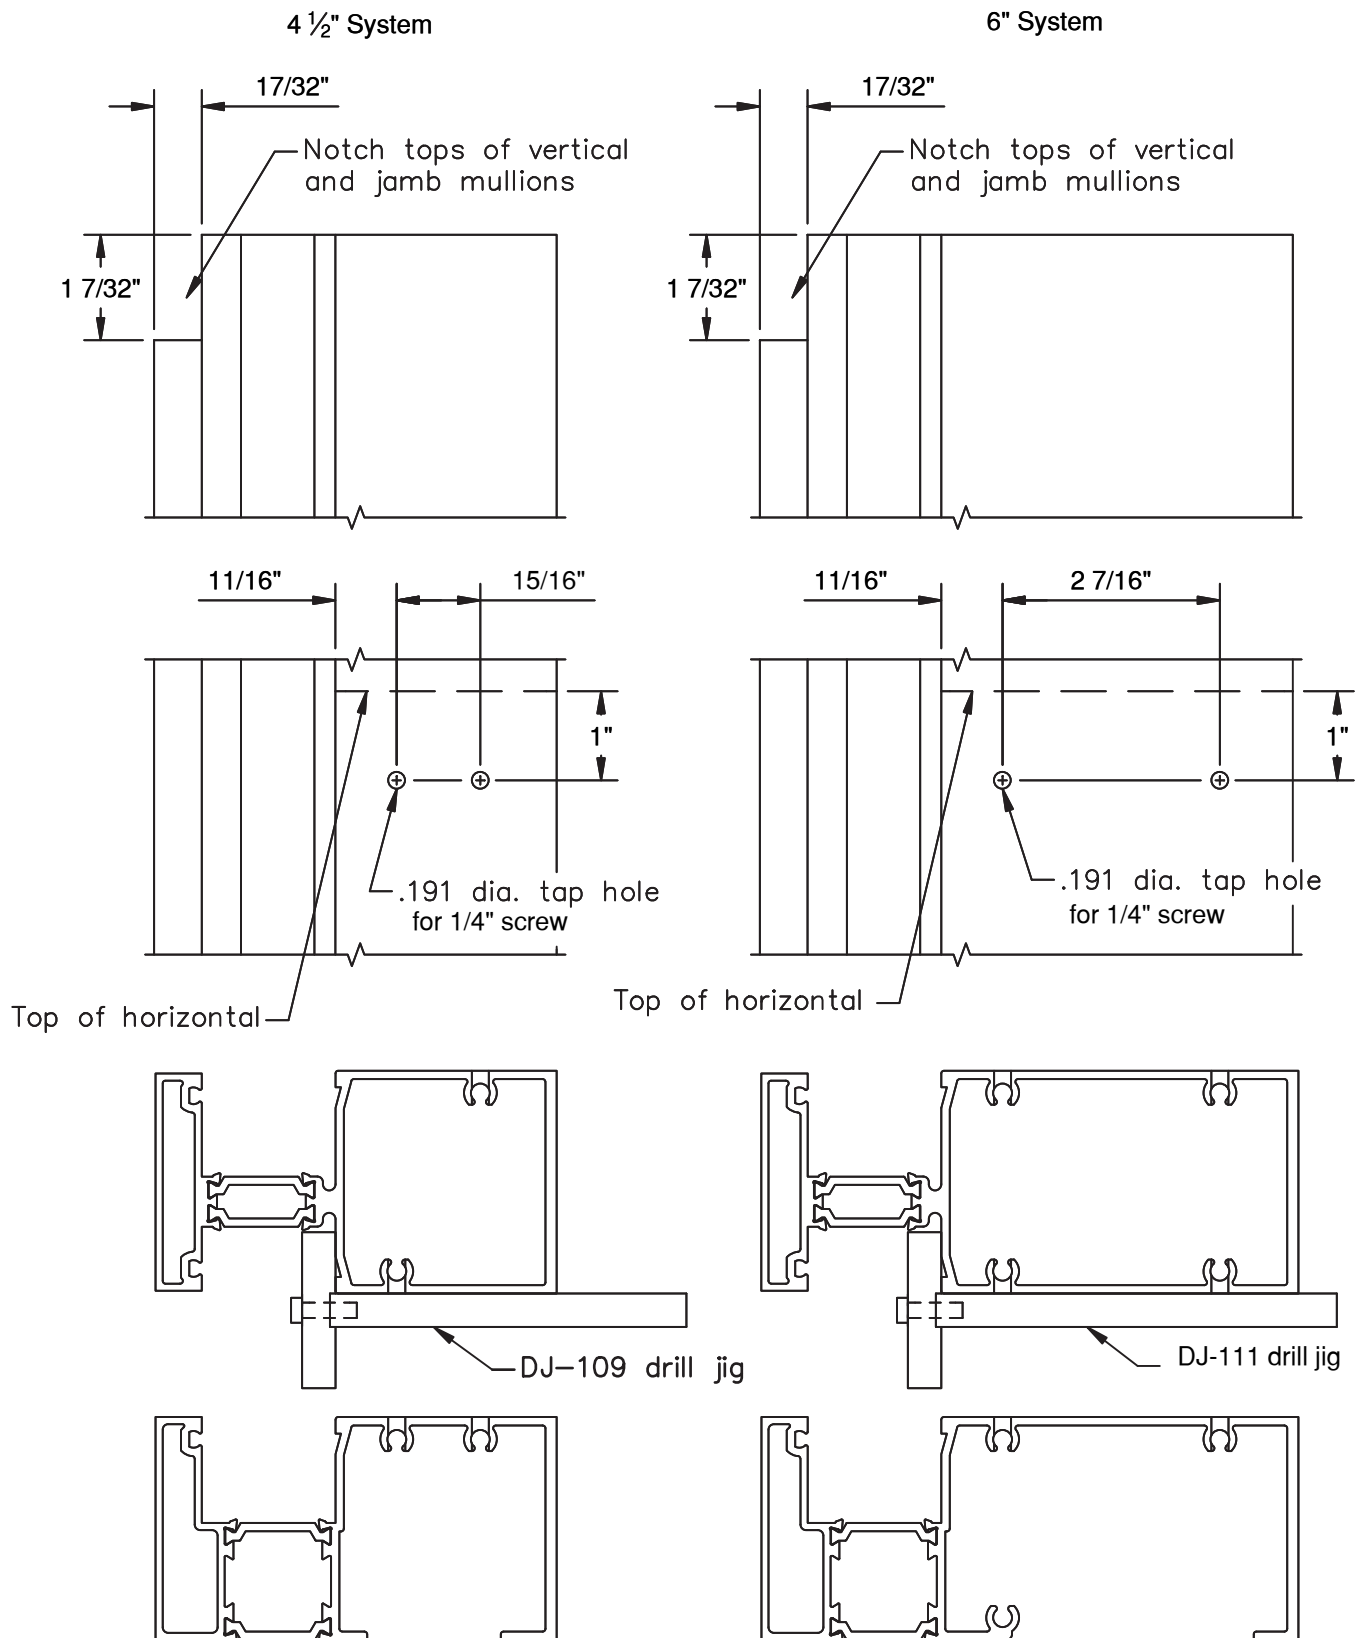

Figure 5
Verticals and Jambs.....	FRAME HEIGHT minus 3 13/16" (see FIG. 5, p.5 for notching)
1.4 Fabricate vertical mullions for intermediate horizontal members. Notch tops of all verticals and jambs for head member. **SEE FIGURE 5 , page 8.**